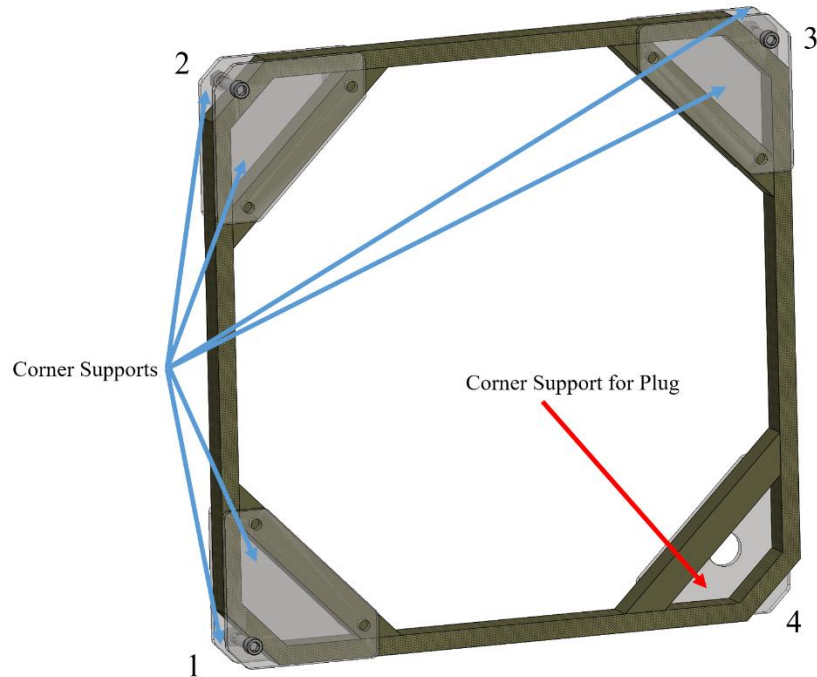

Figure 4.1
2. Epoxy the Corner Supports (PN THBC005) and the Corner Support for Plug (PN THBC006) to the Small Coil. Corners 1, 2, and 3 as shown in Figure 4.1 will each have two Corner Supports (THBC005) epoxied to them, while corner four will have the one Corner Support for Plug (THBC006) epoxied to it. One 2" 3/8"-16 bolt (PN OUTS002) and one 3/8"-16 nut (PN OUTS004) will be used to secure each outside corner of the two Corner Supports epoxied to each other for corners 1, 2, and 3. Corner 4 will only have the Corner Support for Plug epoxied to it as shown in Figure 4.1. Ensure that the Coil Support for Plug is epoxied to the back of the coil as it is shown in the configuration below, with the bolt heads being on the opposite side of the coil from the Corner Support for Plug. When the Corner Support for Plug is bolted in later in the process, the nuts should be resting on its surface.